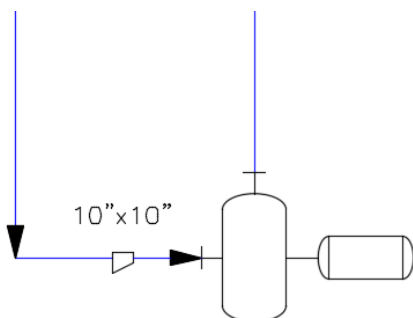

Figure 2-77 An eccentric reducer placed on the line connecting the first pump
1. Choose **Eccentric Reducer** from the **Piping Fittings** area in the **Fittings** tab of the **TOOL PALETTES - P&ID PIP** and place it on the line connecting the horizontal nozzle of the pump, as shown in Figure 2-77.